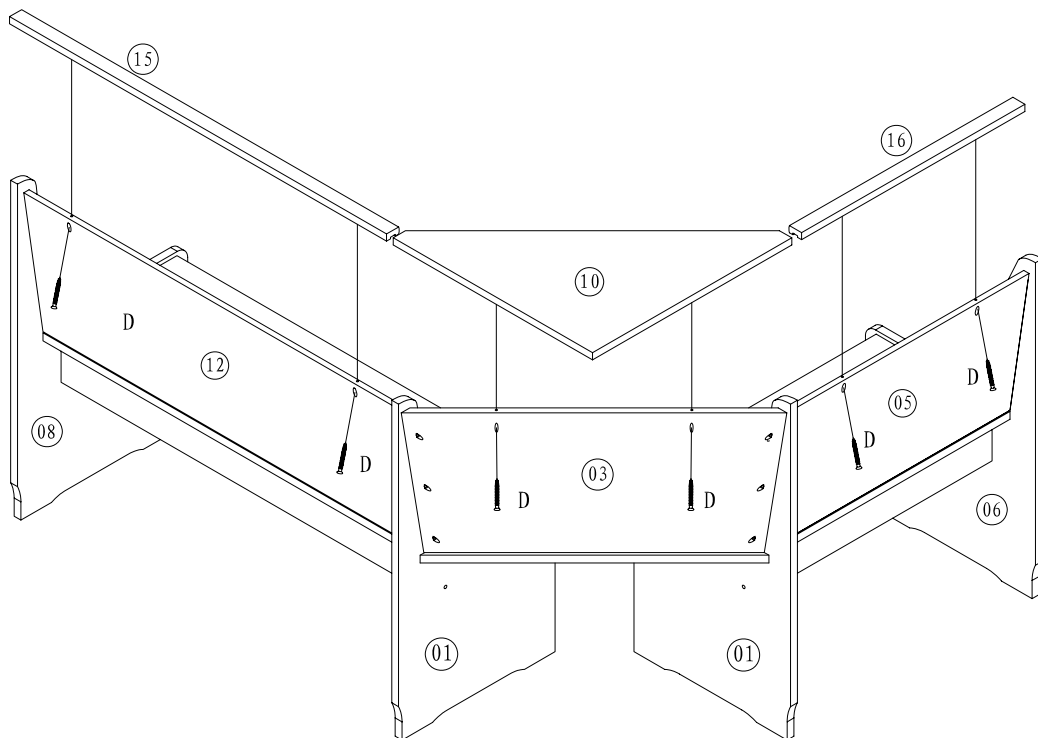

FIGURE 6
- 6.1 ATTACH TOP CORNER TOP PANEL #10 TO TOP OF CENTER BACK PANEL #3, USING (02) SCREWS (D) AND PHILLIP HEAD SCREWDRIVER (NOT PROVIDED). AS SHOWN IN FIGURE 6.
- 6.2 ATTACH TOP RAIL FOR SINGLE BACK REST #16 TO UPPER EDGE OF SINGLE BENCH BACK REST #5, AND ATTACH TOP RAIL FOR DOUBLE BACK REST #15 TO UPPER EDGE OF DOUBLE BACK REST #12 USING PRE-DRILLED LOCATED ON BACK OF PANELS #5 AND #12 AS GUIDE, WITH (04) SCREWS (D) USING PHILLIPS HEAD SCREWDRIVER (NOT PROVIDE), AS SHOWN IN FIGURE 6.